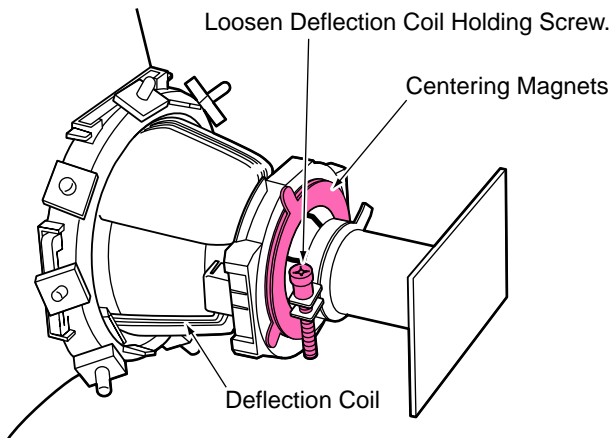

Fig. 4-1
- Loosen the Deflection Coil Holding Screw as shown in Fig. 4-1.
- Adjust the Centering Magnets as shown in Fig. 4-1 until the Monoscope Pattern signal comes to the center on the monitor screen.